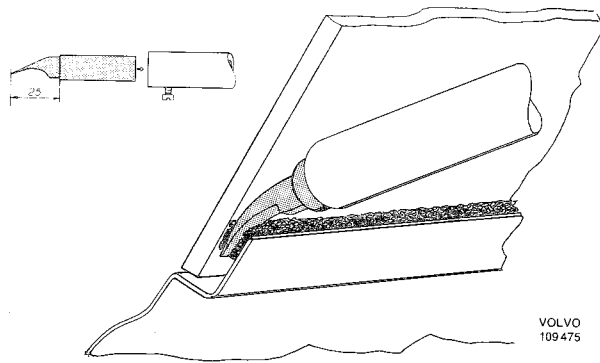

Fig. 8-34. Removing windshield
5. Cut the windshield loose with a warm soldering iron, see Fig. 8-34.
Insert the point of the iron in between the windshield and the body, from the inside of the vehicle, see Fig. 8-34. Then draw the soldering iron all round the windshield. The windshield can now be pressed out by hand. Cut off any remaining strands with a knife.